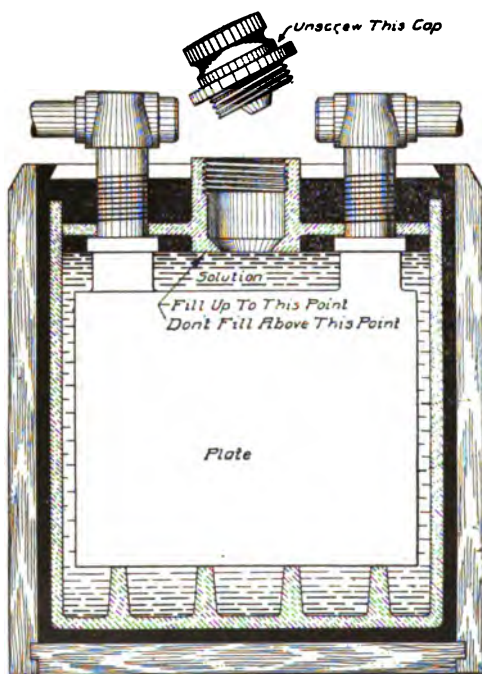

Fig. 454. Section of Willard Starting Battery, Showing Mud Space
**Construction Details.** For automobile starting and lighting service, the elements of the cells are placed in insulating supports in the bottom of the hard rubber jars and sealed in place. These supports hold the plates off the bottom of the jar several inches in the later types of starting batteries. Figs. 454 and 455 show sections of the Willard starter battery and another standard type. This is known as the mud space and is designed to receive the accumulation of sediment consisting of the active material which is shaken off the plates in service. This active material is naturally a good electrical conductor, and if it were allowed to come in contact with the bottoms of the groups of plates, it would short-circuit the cell. Sufficient space is usually allowed under the plates to accommodate practically all of the active material that can be shed by the plates during the active life of the cell. In a battery having cells of this type, it is never necessary to wash the cells, as the elements themselves would require renewal before the sediment could reach the bottom of the plates.